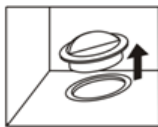

Fig.1
- When the ice has melted, drain the water in the bottom of the freezer by removing the rubber cap located inside the appliance in the back, left hand side as illustrated below. Fig.1 (NOTES: PLEASE KEEP THE RUBBER COVER SAFE DURING THE DEFROSTING PROCESS AND PUT IT BACK AFTER THE DEFROSTING PROCESS IS COMPLETE)